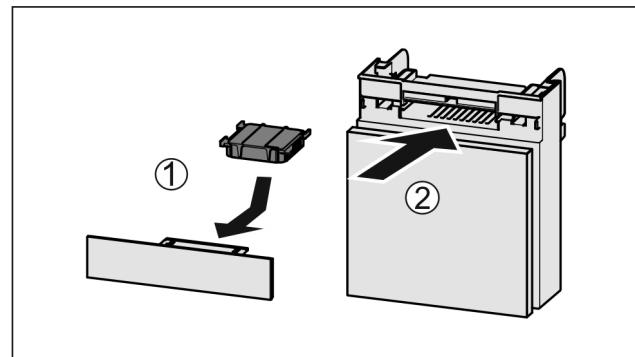

Fig. 143
- Insert the carbon filter as shown in the diagram Fig. 143 (1).
► Push the compartment in Fig. 143 (2).